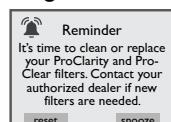

Figure 15.0d
23. **ProClarity/ProClear Filter Reminder:** This message will appear when the filter reminder time has expired (Figure 15.0d). Remove the ProClarity/Proclear filters and filter/debris bag for cleaning or replacement.